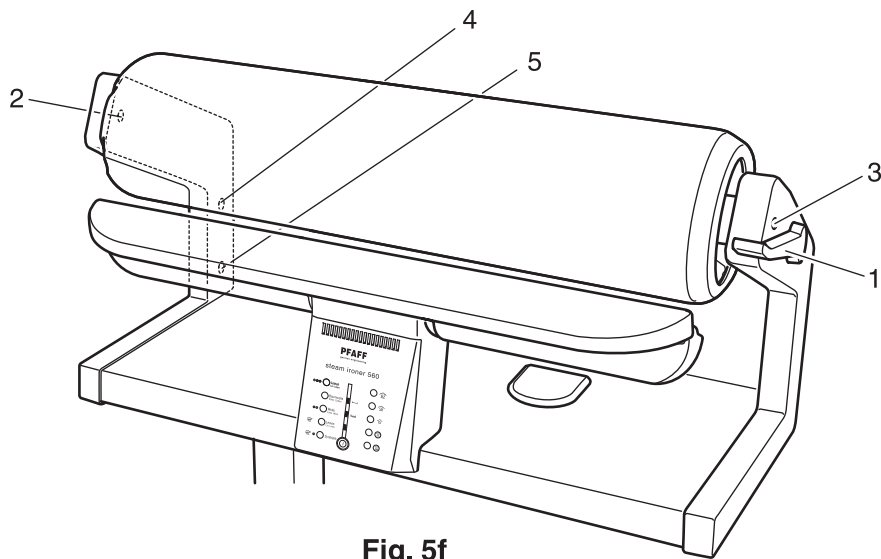

Fig. 5f
- Replace all covers and tighten screws 2 to 5 (fig. 5f).